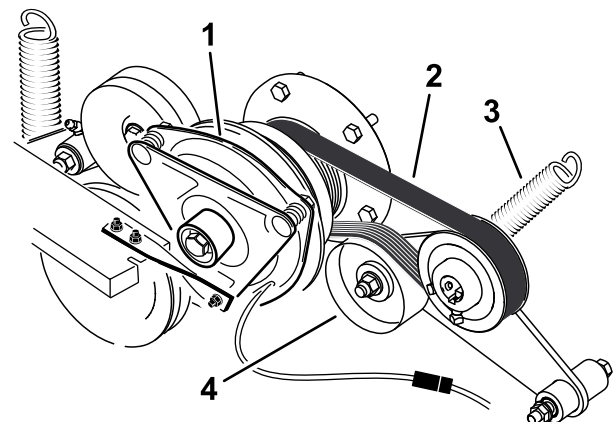

Figure 69
3. Remove the spring from the idler arm (Figure 69).
4. Install the new belt around the engine and hydro pump pulley (Figure 69).
6. Install the spring to the idler arm (Figure 69).